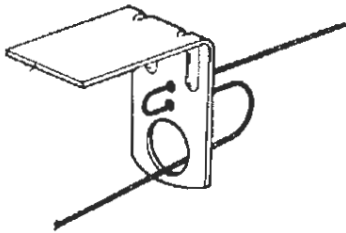
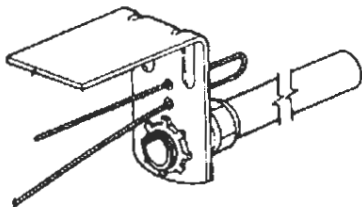

FIGURE 25
FIGURE 26
5. Feed the wire rope through the terminal detector bracket as shown in Figure 25 or as shown in Figure 26 if the terminal detector is mounted within a duct or header opening, and install the stop sleeve approximately 2 to 3 in. (5 to 8 cm) from the end of the wire rope. See Figure 27. Use the National Telephone Supply Company Nicopress Sleeve Tool (Stock No. 51-C-887) or equal to properly crimp the stop sleeve.